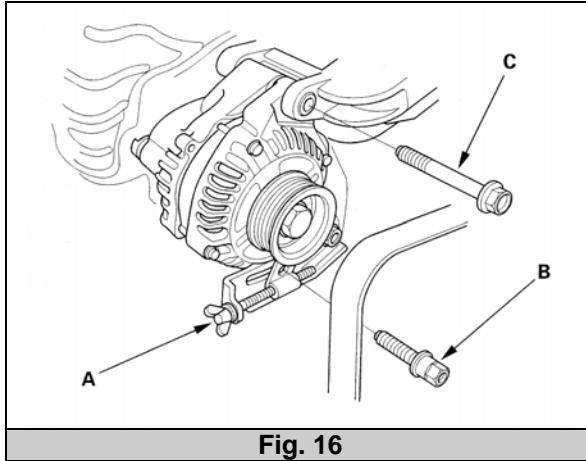

Fig. 16
- w) Remove the alternator/air-conditioning belt. First loosen the adjuster locking bolt and the alternator-pivot bolt. Then relieve the tension on the belt by turning the wing nut counter clockwise. A: *Wing nut* B: *Adjuster locking bolt* C: *Alternator-pivot bolt* (Fig. 16)